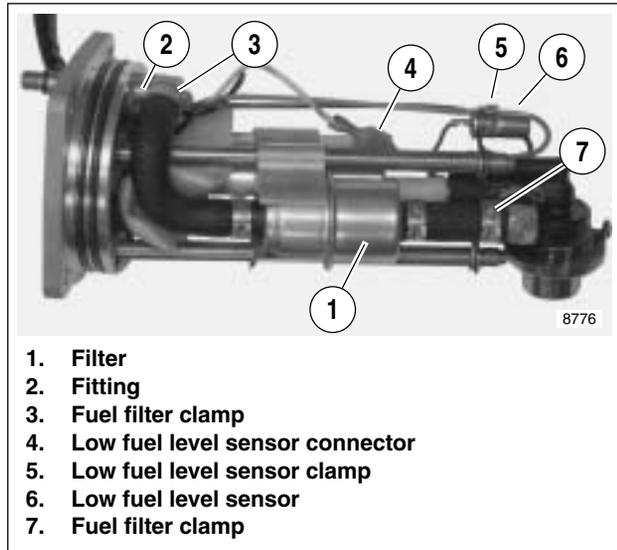
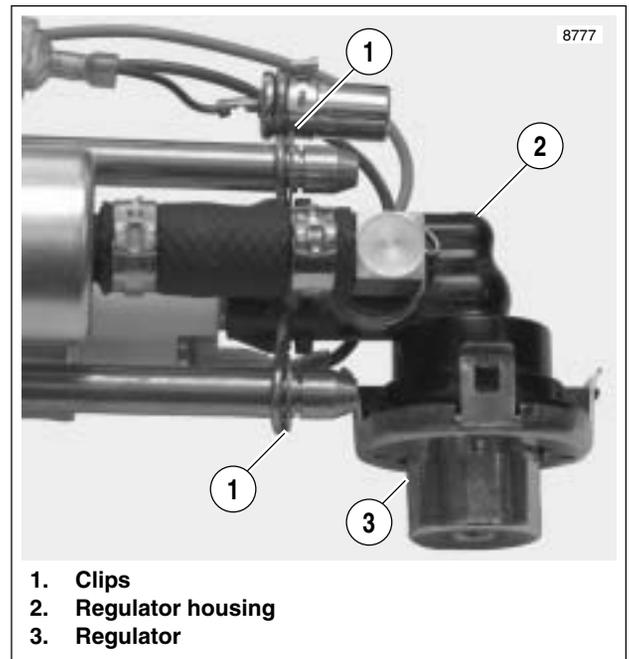
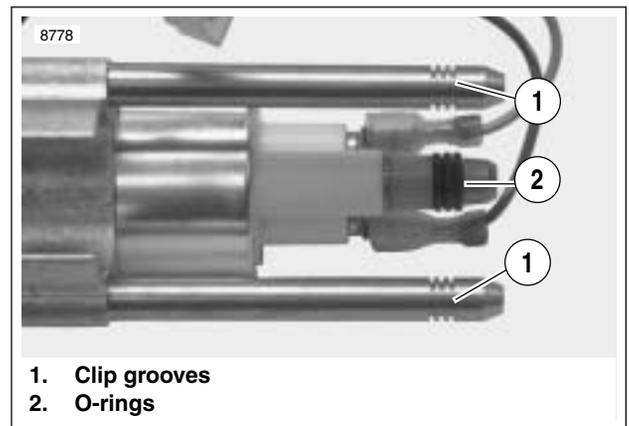

Figure 4-56. Fuel Pump Assembly (right side)
Figure 4-57. Fuel Pump Clips
Figure 4-58. Regulator Housing O-rings
2. See Figure 4-56. Disconnect low fuel level sensor connector (4).
3. Remove clamp (5) securing low fuel level sensor (6) in place.
2. See Figure 4-56. Remove fuel pump clamps (3, 7).
3. See Figure 4-57. Remove fuel pump clips (1).
4. Pull regulator housing (2) from fuel pump assembly.
5. See Figure 4-58. Discard regulator housing o-rings (2).
6. See Figure 4-56. Remove fuel filter hose from fitting (2) and remove fuel filter (1).
8. Install **new** fuel filter hose with 90° bend towards fitting (2).
9. See Figure 4-58. Install **new** regulator housing o-rings.
11. See Figure 4-56. Tighten fuel filter clamps (3, 7).
12. See Figure 4-57. Install clips (1) into center grooves.
2. See Figure 4-56. Remove fuel filter clamp (3). Disconnect hose from fitting (2).
3. See Figure 4-57. Remove clips (1).
9. See Figure 4-56. Attach fuel filter hose to fitting (2) with clamp (3).
10. See Figure 4-57. Install clips (1) into middle grooves.
14. See Figure 4-56. Attach fuel filter hose to fitting (2) with clamp (3).
15. See Figure 4-57. Install clips (1) into middle grooves.